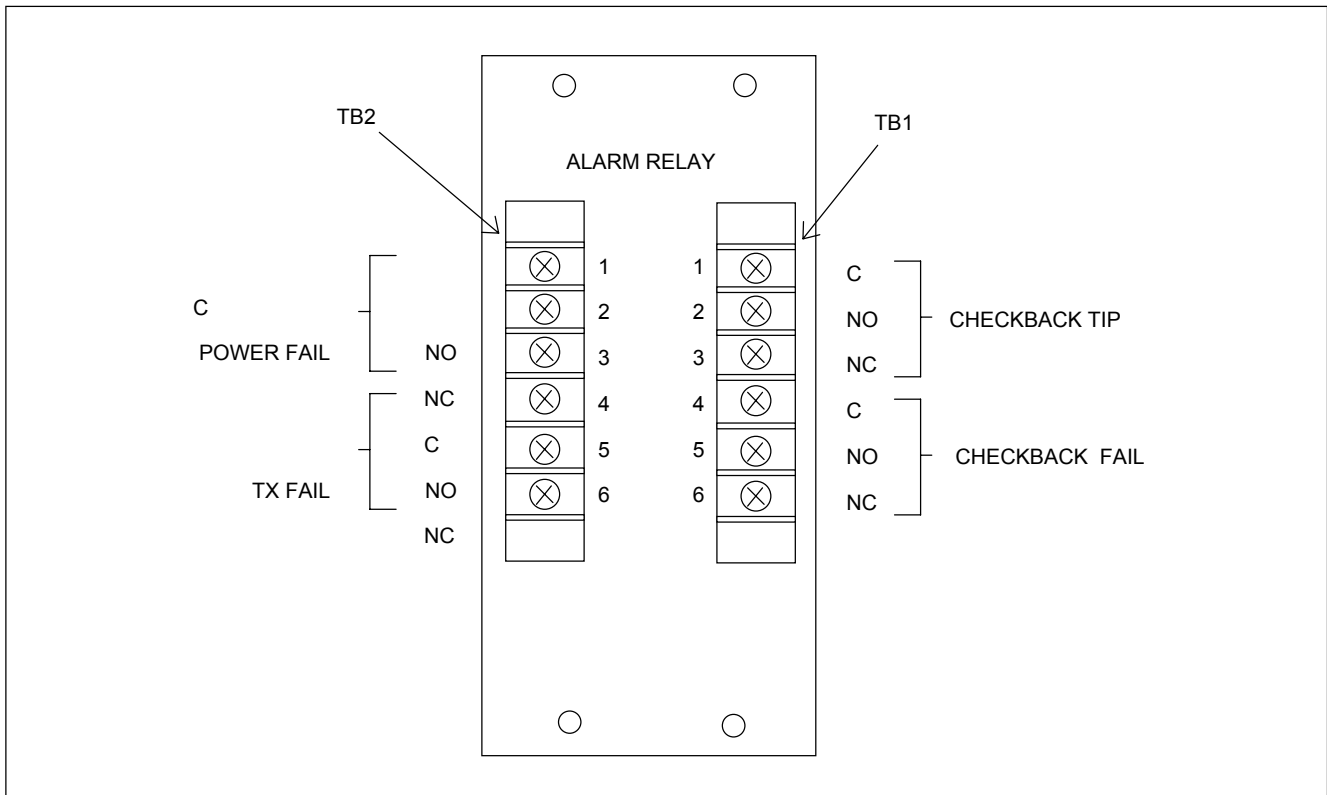

Figure 18-11. Alarm Relay I/O module, rear panel view
The Alarm Relay I/O module (Figure 18-11) provides four electro-mechanical relay outputs. Each output is used to indicate a factory pre-defined alarm condition as shown in Table 18-9 below. Each electro-mechanical output has normally opened (NO), normally closed (NC) and common (C) connections at the terminal block. All signals to and from the Alarm Relay I/O interface directly with the various modules within the system.